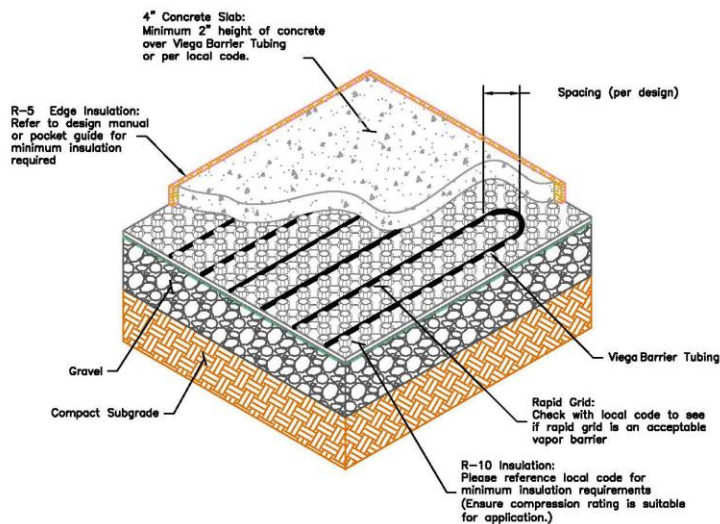

Figure 8 In-Slab – Rapid Grid
**Rapid Grid:** Rapid Grid is an insulated panel used to attach PEX tubing to the sub base. Rapid Grid is compatible with 3/8" (9.5 mm), 1/2" (12.7 mm) and 5/8" (15.9 mm) Viega Barrier tubing and 1/2" (12.7 mm) PureFlow FostaPEX® tubing. Cover the entire slab area with Rapid Grid ensuring panels are interlocked and seams are staggered from row to row. After the floor is covered with Rapid Grid, install tubing dependent on radiant design and connect to the manifold. When installed properly Rapid Grid provides insulation value, vapor barrier, and grid fastening system. See Figure 8.